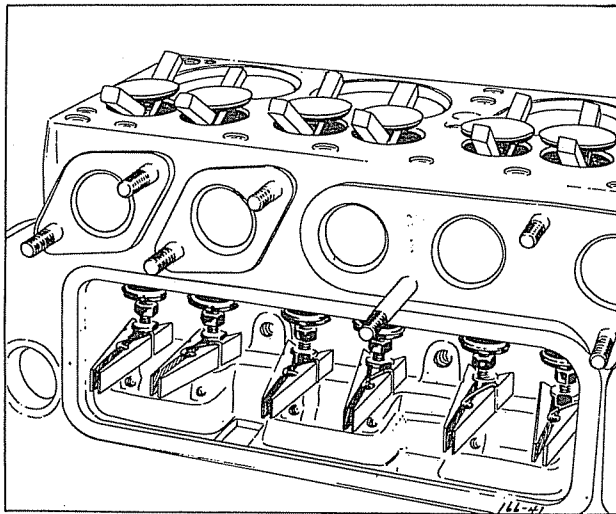

Fig. 14—Holding up Valves and Tappets for Camshaft Removal.
- (10) Raise the valves. Hold them in position by inserting two wooden wedges, under each valve head (at opposite points) to prevent cocking or warping of the valve head. This operation is not required if the valves are being ground, since the valves and springs will be removed.
- (11) Lift the valve tappets and hold them in place with spring type clothes pegs (Figure 14) or similar tools.
- (12) Then remove the camshaft, rotating it as it is drawn out so that the cams will clear any obstacles. Press off the sprocket hub and thrust plate in an arbour press.